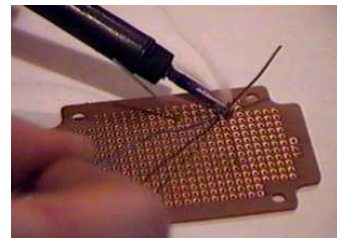

Figure 2.4: Applying solder to the joint.
4. Once the component lead and solder pad has heated up, you are ready to apply solder. Touch the tip of the strand of solder to the component lead and pad, but not the tip of the iron (Figure 2.4). The solder should flow freely around the lead and pad. Once the pad is coated, you can stop adding solder and remove the soldering iron (in that order). Don't move the joint for a few seconds to allow the solder to cool, otherwise you will end up with a weak, cold joint.